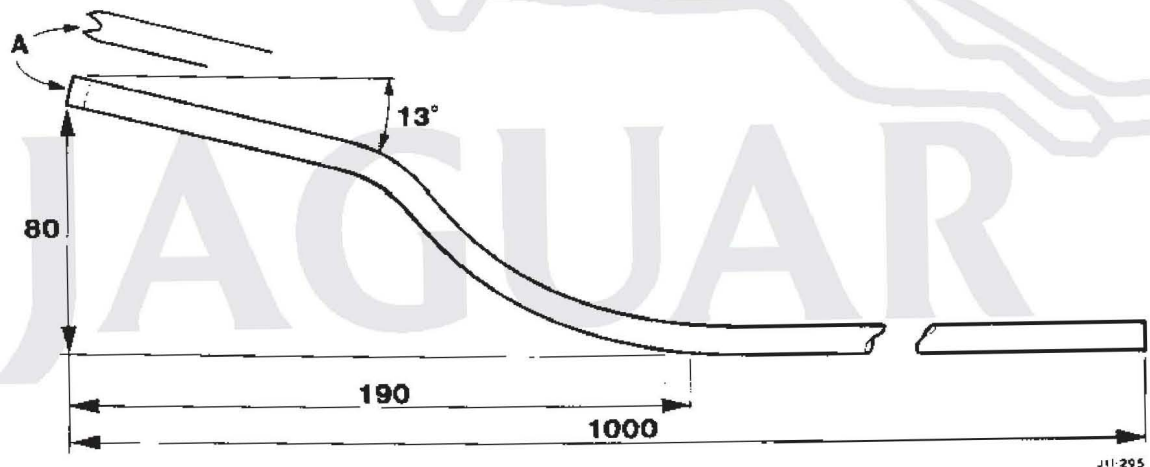

Fig. 1.
8. Using the locally-made release tool illustrated in Fig. 1. below, the LHS catch may be released after passing the release tool across the top of the engine. The notch on the end face of the tool prevents slippage from the catch.